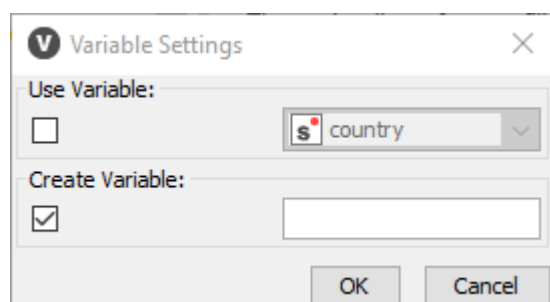

Figure 6. Variable Settings dialog
2. Click the icon and select *Create Variable* in the dialog that opens, shown in Figure 6